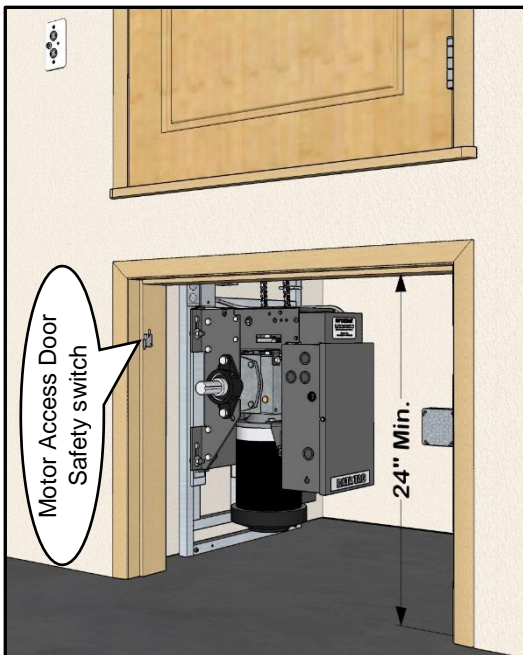

Figure 29
- 5** Mount the safety switch to the jam of the access panel opening, so that you can hear the switch click when opening and closing the access door. (see Figure 29)